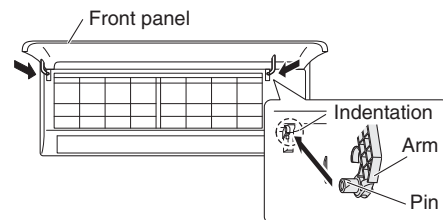

Fig. 3-87
- (1) While aligning the top edge of the grille with the frame, move the grille horizontally and insert the top and bottom into the frame.
- (2) Press the grille firmly with your hand to ensure no gap exists between the frame and grille.
- (3) Tighten the 6 screws. And fix the removed covers in place.
- (4) Grasp the sections near the front panel arms on both sides, and hold the front panel so that it is nearly horizontal. Push the arm shafts towards the outside so that they come into contact with the top of the indentations on the right and left sides of the air conditioner. Then push firmly until the arm shafts click into place. (Fig. 3-87)
- (5) Remount the lower flap.